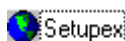

Figure 4: Setupex icon. Double-click on this after installation, if the host is an NT, 2000, or XP machine.
2. If you are installing and running SeisOpt ReMi on a Windows **NT, 2000, or XP** machine you need to log in as the **local administrator** and run **setupex**. Find the ‘setupex’ file in the installation directory (globe icon show in Figure 4). Run ‘setupex’ by double clicking the globe icon from a Windows-explorer window.